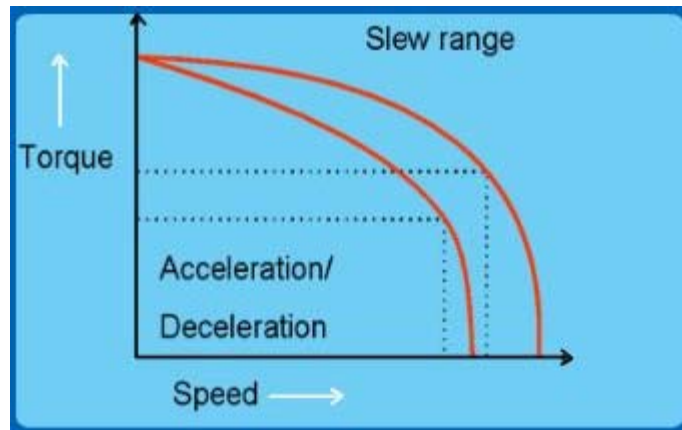

Figure 8.1.2
- The torque Vs Speed graph is shown below Fig. 8.1.2